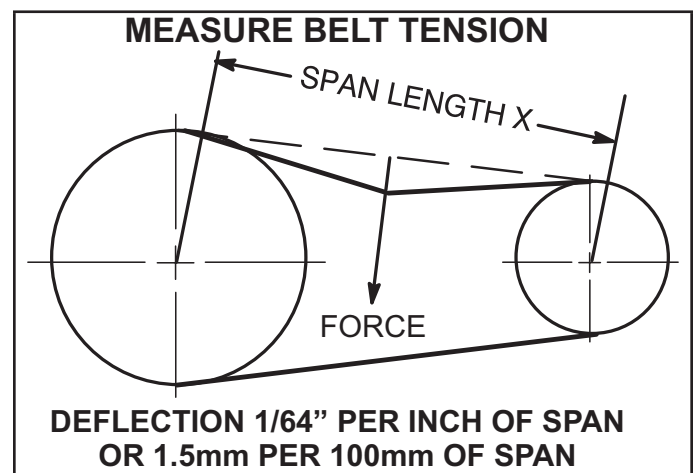

FIGURE 9
- 1 - Measure span length X. See FIGURE 9.
- 2 - Apply perpendicular force to center of span (X) with enough pressure to deflect belt $1/64$ " for every inch of span length or 1.5mm per 100mm of span length.